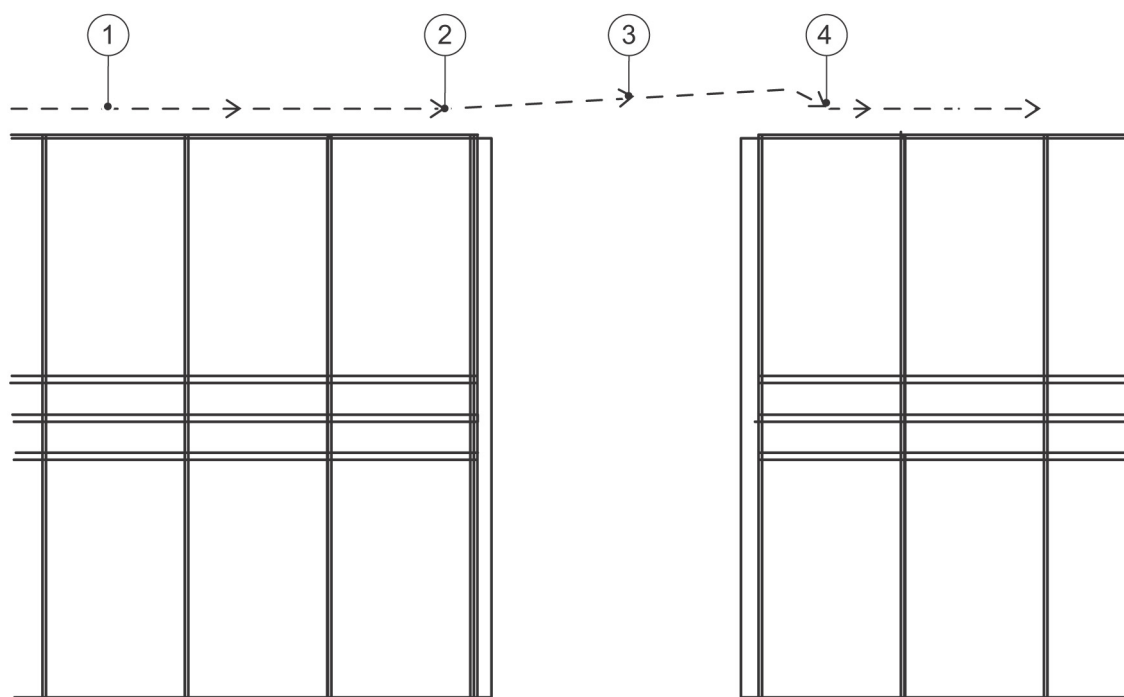

Figure 16. To pass a crosswalk
If the machine slips during action (3) (see figure 16 on page 4-25), the vehicle will not reach the wall during the next action (4). Instead of following the wall, it will then hit the manger on the cross wall. In that case the run distance of action 3 (**Straight**) should be increased.